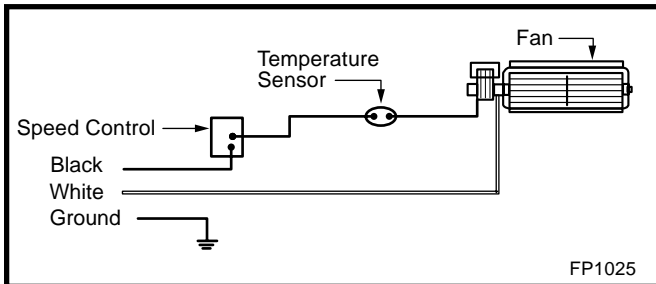

Fig. 43 FK24 fan wiring.
3. Locate the fan speed control unit. This can be fitted behind the lower louvre assembly as in Figure 43 or located remotely in a conveniently located wall mounted electrical box. Remote location of the speed control will require suitable extension of the component wiring.
Should this fan require servicing or repair the power supply must be disconnected. For rewiring of any replacement parts refer to Figure 43.